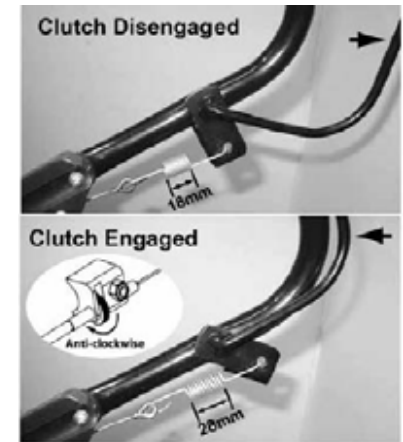

figure 17 . Clutch adjustment
Refer to figure 17.
### Adjusting the Drive Cable-refer figure 17.
- ★ Measure the length of the clutch spring(18mm) when the clutch engagement lever is in the disengaged position. Refer to figure17.
- ★ Push the clutch engagement lever forward until it touches the handlebar (drive engaged position). The clutch spring should be stretched to 28mm (10mm longer). Refer to figure 17.